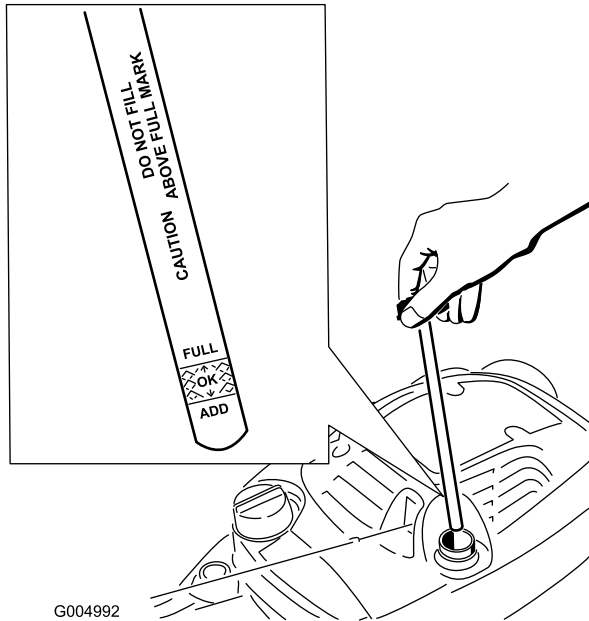

Figure 21
2. Remove the dipstick (Figure 21).